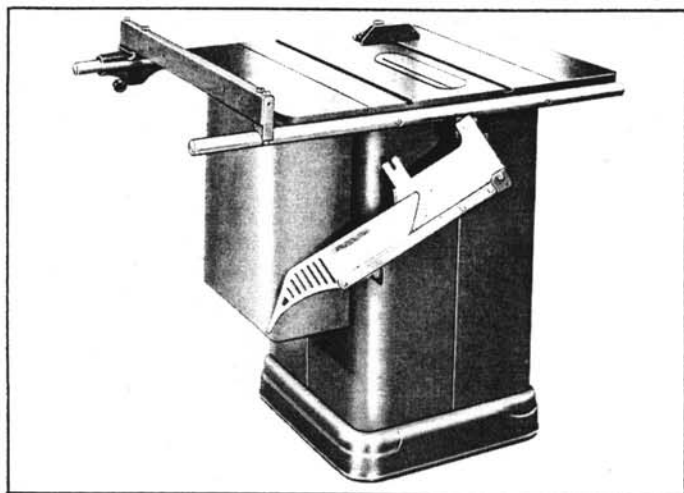

Fig. 1.
5. The entire saw guard can then be swiveled and lowered to the back of the saw cabinet onto sleeve (52), as shown in Fig. 1.